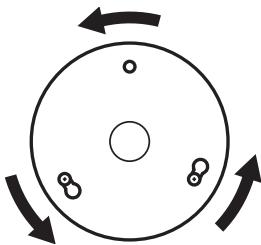

Figure 26 - Mounting the upper switch housing
- Turn the upper switch housing counterclockwise until the housing assembly screws are firmly situated in the narrow end of the keyhole slots as shown in Figure 26. Install the one remaining #6-32 x 3/8" housing assembly screw into the third hole in the upper switch housing. Tighten all three screws firmly.
4. Turn the upper switch housing counterclockwise until the housing assembly screws are firmly situated in the narrow end of the keyhole slots as shown in Figure 26. Install the one remaining #6-32 x 3/8" housing assembly screw into the third hole in the upper switch housing. Tighten all three screws firmly.